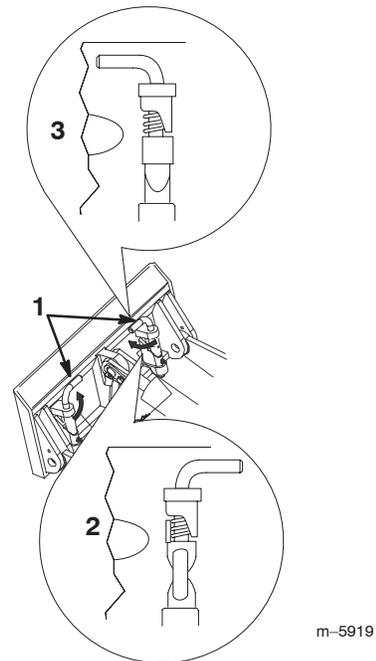

Figure 14
7. Engage the quick attach pins, ensuring that they are fully seated in the mount plate (Fig. 14).